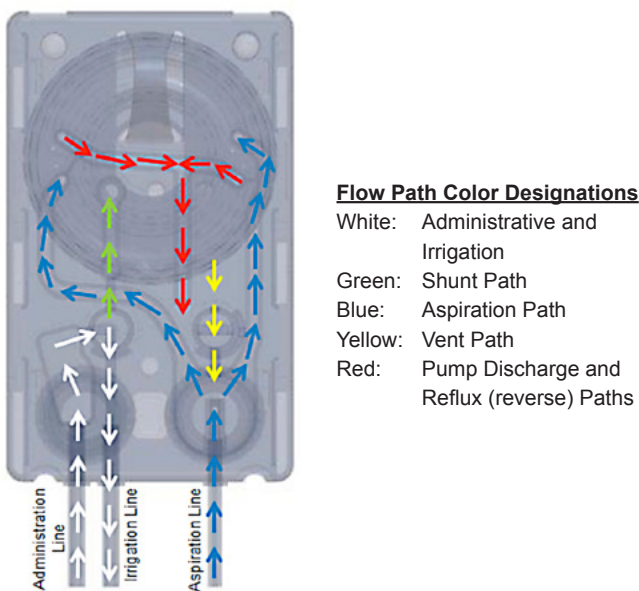

Figure 2-9 FMS Fluid Flow Paths
- 7.5.13 Flow Paths - The overall fluid circuit is depicted schematically in Figure 2-2 on page 2.3 while actual flow paths within the FMS assembly are shown in Figure 2-9.